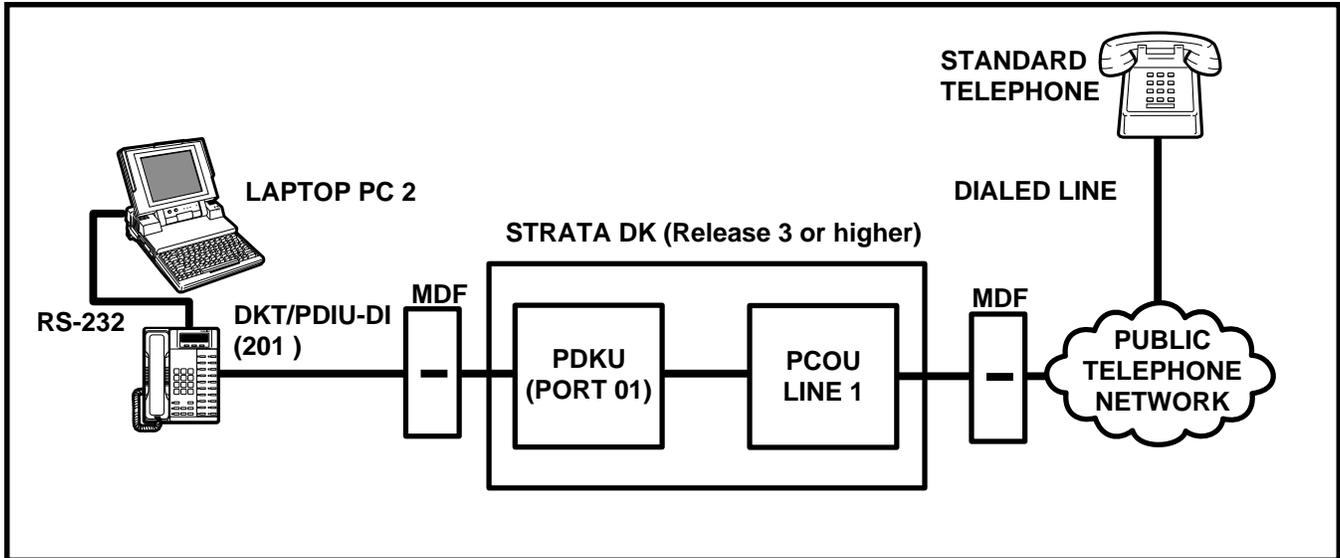

FIGURE 8-42
- The CONNECT LED on the PDIU-DS (204) will be lit; the Data Call (DATA) and Modem (MODEM) LEDs on DKT 200 will also be lit.
12.86 PC-Auto Dial Voice-Call Test (see Figure 8-42)